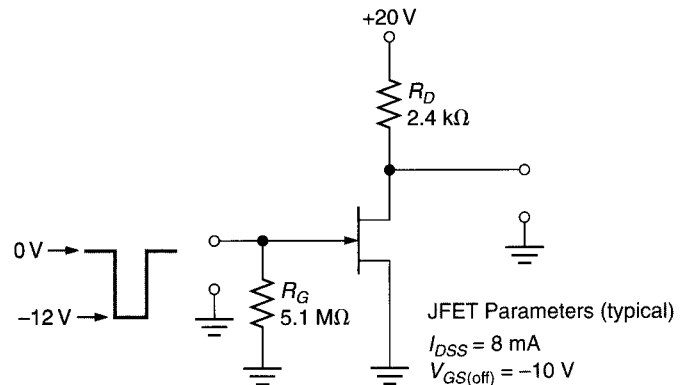

FIGURE 19.50
6. Determine the high and low output voltages for the circuit shown in Figure 19.50.